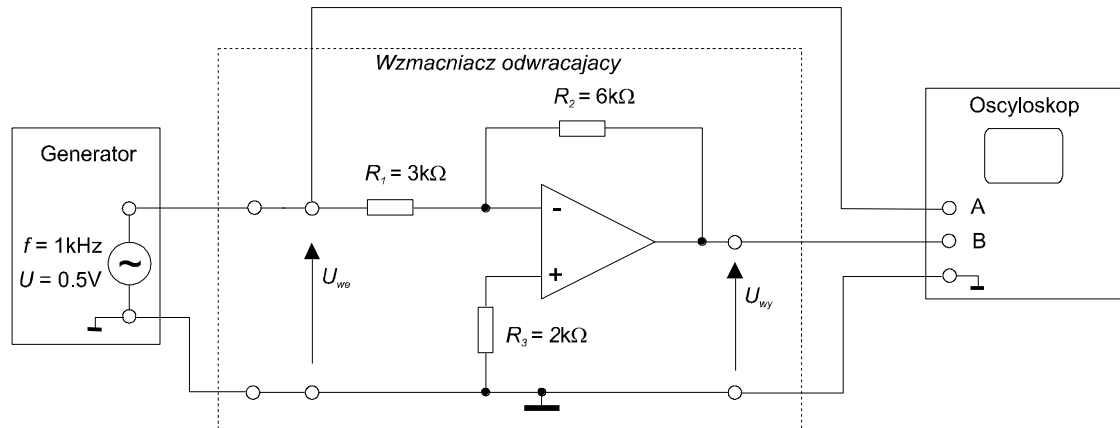

Fig. 9.3.1. A system for testing the inverting amplifier
- Connect the measuring system from Fig. 9.3.1, where $R_1=3\text{ k}\Omega$, $R_2=6\text{ k}\Omega$, $R_3=2\text{ k}\Omega$. Redraw the diagram of the inverter amplifier. At the input of the amplifier, give the generator a sinusoidal signal with an amplitude $U_{we} = 0.5\text{ V}$ and frequencies $f=1\text{ kHz}$.